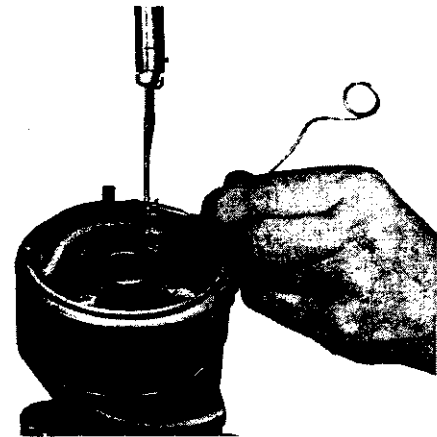

Fig. 19—Soldering Solenoid Winding Lead to Brush Terminal
(13) Wrap solenoid lead wire tightly around brush terminal post as shown in Figure 19 and solder securely with a high temperature resin core solder and resin flux.
(16) Position brushes with armature thrust washer as shown in Figure 19. This will hold brushes out and facilitate proper installation of armature.